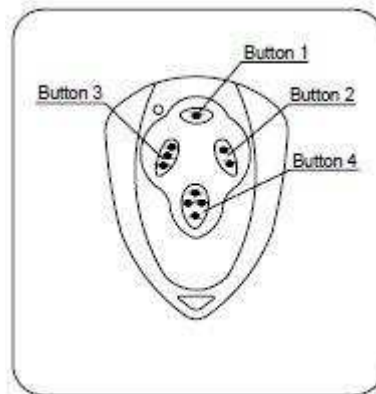

Fig. 10
(3) Adding / erase remote controls
- The remote control works in three-channel mode, (button 1-open, button 2-close, button 3-stop) See Fig.10.